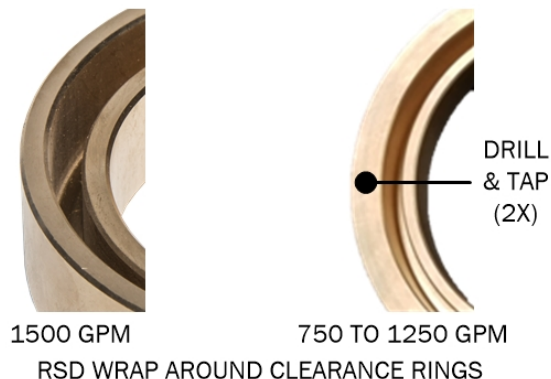

Figure 46. RSD Wrap Around Clearance Rings
As an alternate method for removing ONLY the 750–1250 gpm RSD wrap around clearance ring, the thick portion of the clearance ring may be drilled and tapped for two (2) 3/8–16 X 1-1/2-in long (all thread) jackscrews. See Figure 46. Position the jackscrew holes to be within any two of the pump head recesses and 180° apart.